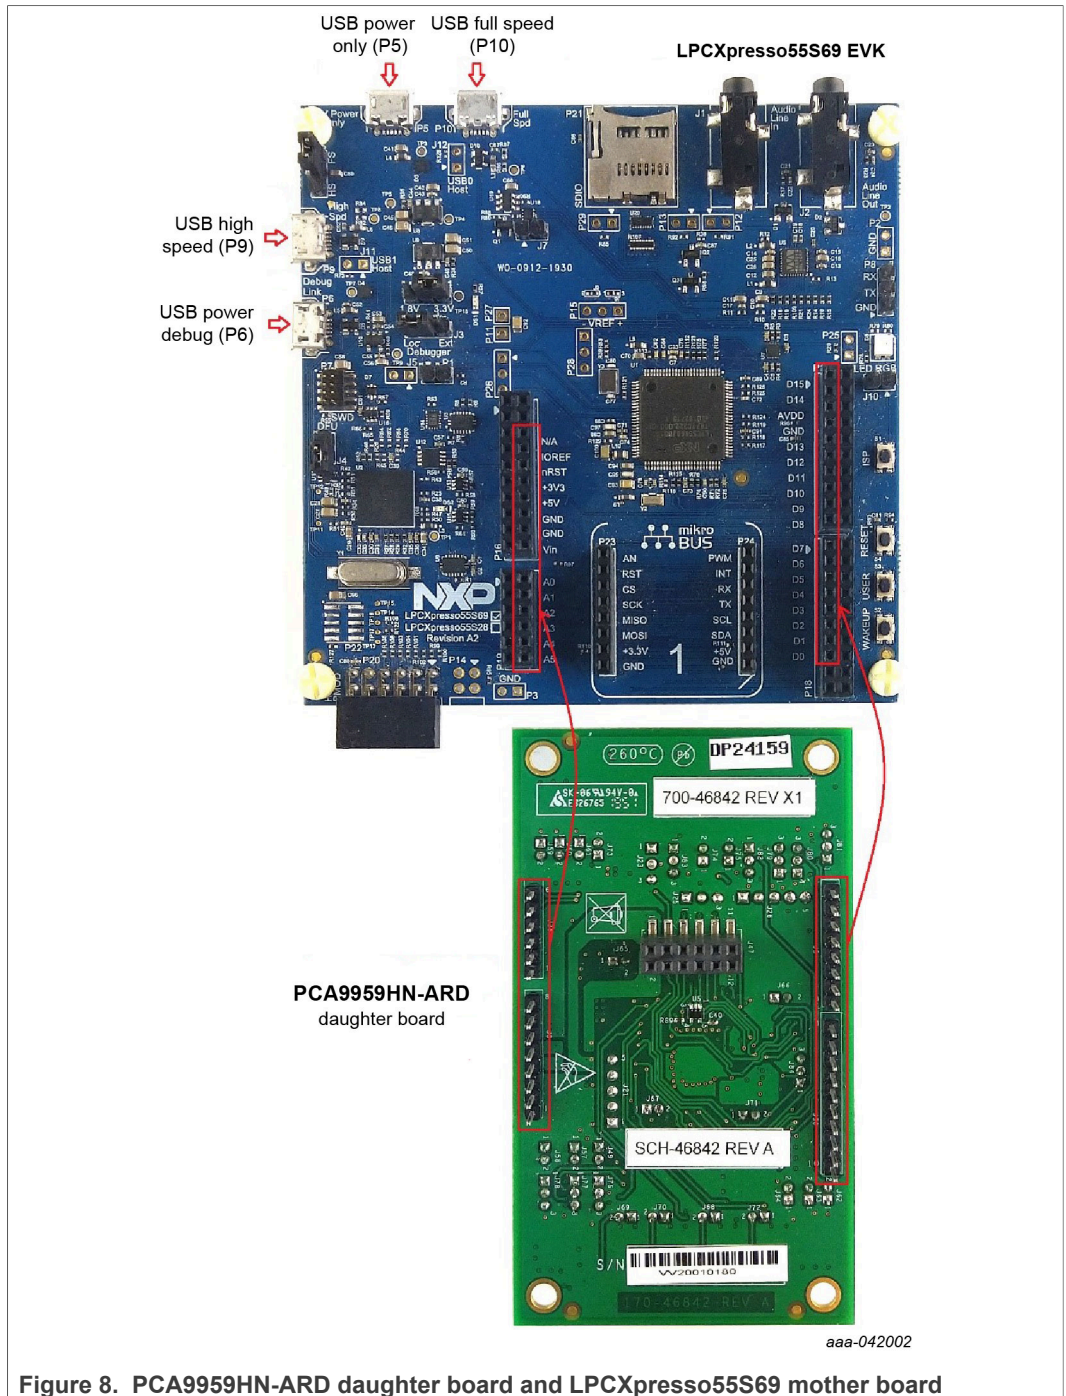

Figure 8. PCA9959HN-ARD daughter board and LPCXpresso55S69 mother board
Figure 8 shows the necessary hardware involved when using the PCA9959HN-ARD board with an LPCXpresso55S69 board. This configuration consists of:
The following steps describe how to assemble, power up, program, and operate the configuration shown in Figure 8:
1. Insert the PCA9959HN-ARD daughter card to P16 – P19 connectors located on LPCXpresso55S69 development board (see the marked pins of P16 – P19, Figure 8).